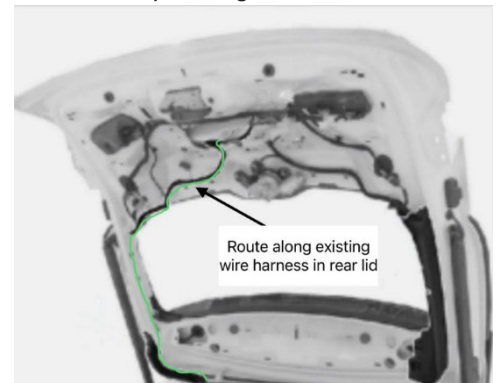

Figure 12. Rear Lid Harness Area
2.3.2 Route along rear lid harness (Figure 12)